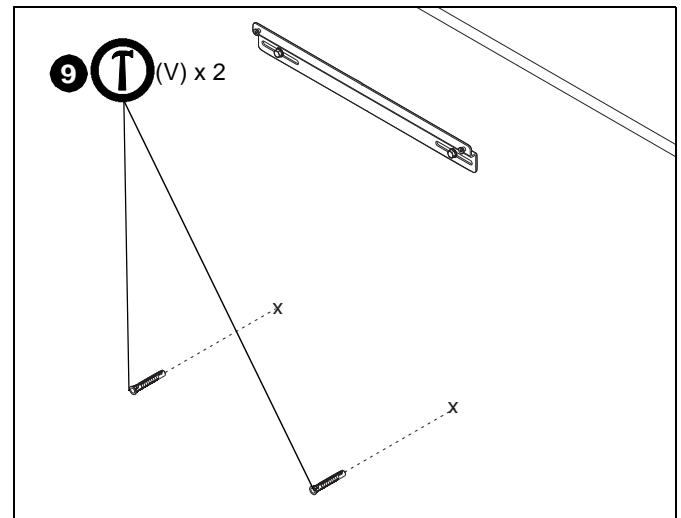

Figure 8
9. Remove mount (X) from top bracket and install an anchor (V) into each pilot hole using a hammer, making sure that the anchor is flush with the wall. (See Figure 8)